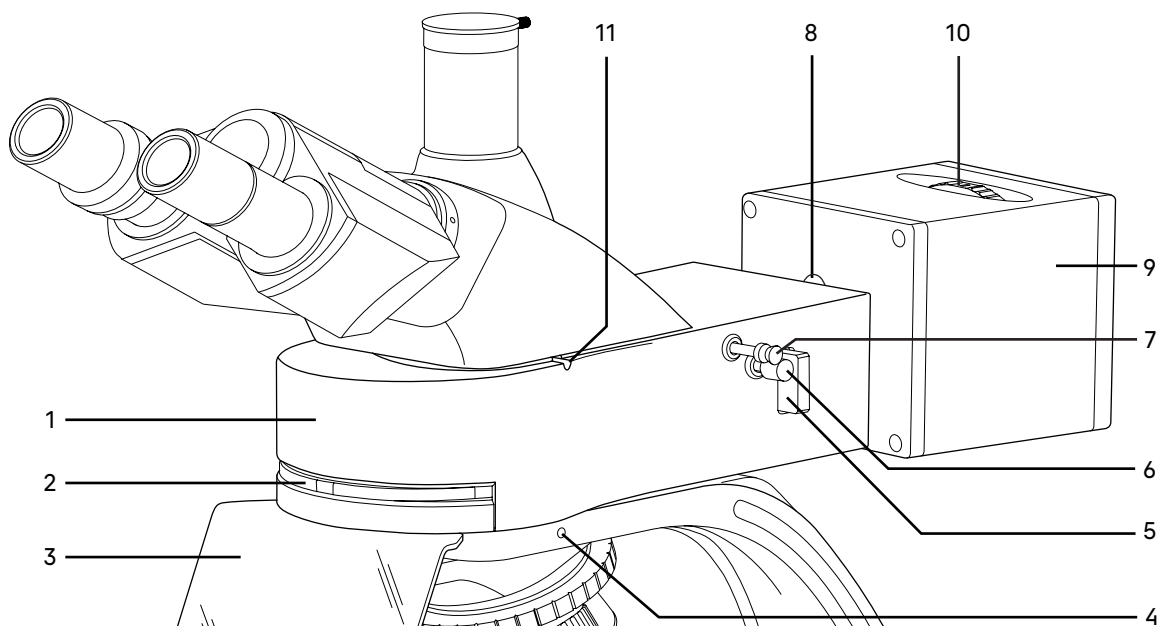

Fig. 4. Reflected light illuminator
The general view of the reflected light illuminator is given in Fig. 4.
The illuminator body 1 (Fig. 4) is installed in the mounting hole of the top flange of the stand and secured with the screw 4 (Fig. 4).
There is an adapter on the illuminator body 1 (Fig. 4) to connect the body to the LED lamphouse. The UV shield 3 (Fig. 4) is attached to the illuminator with two screws.
The metal plate of the filter slider 5 (Fig. 4) is installed in the slot of the illuminator body. The plate has three positions:
There is a rotating turret inside the illuminator with four fluorescence filters. The turret is moved by rotating the wheel 2 (Fig. 4). The locked position of the knob under the symbol means that the corresponding filter is in the optical path.
The turret wheel can be locked in one of the five positions corresponding to one of the four filters mounted on the turret: blue (B), green (G), violet (V), and ultraviolet (UV), or the neutral position (O). The marking of each filter corresponds to the color of the excitation light and its symbol is inscribed on the wheel 2 (Fig. 4).
The lamphouse 9 (Fig. 4) contains the excitation light sources – LEDs. The microscope is equipped with LEDs of four wavelengths: blue (B), green (G), violet (V), and ultraviolet (UV). LEDs are installed in the turret inside the lamphouse. The LEDs are changed by rotating the ring 10 (Fig. 4). The LED names are printed on the front side of the ring.
The lamphouse is secured on the reflected light illuminator 1 (Fig. 4) by an Allen head screw 8 (Fig. 4). Inside the lamphouse, there is a collector that projects the image of the light source into the exit pupil of the objective.
Set the filter turret wheel 2 (Fig. 4) to "0" position.
Set the plate 5 (Fig. 4) into a "shutter" position.